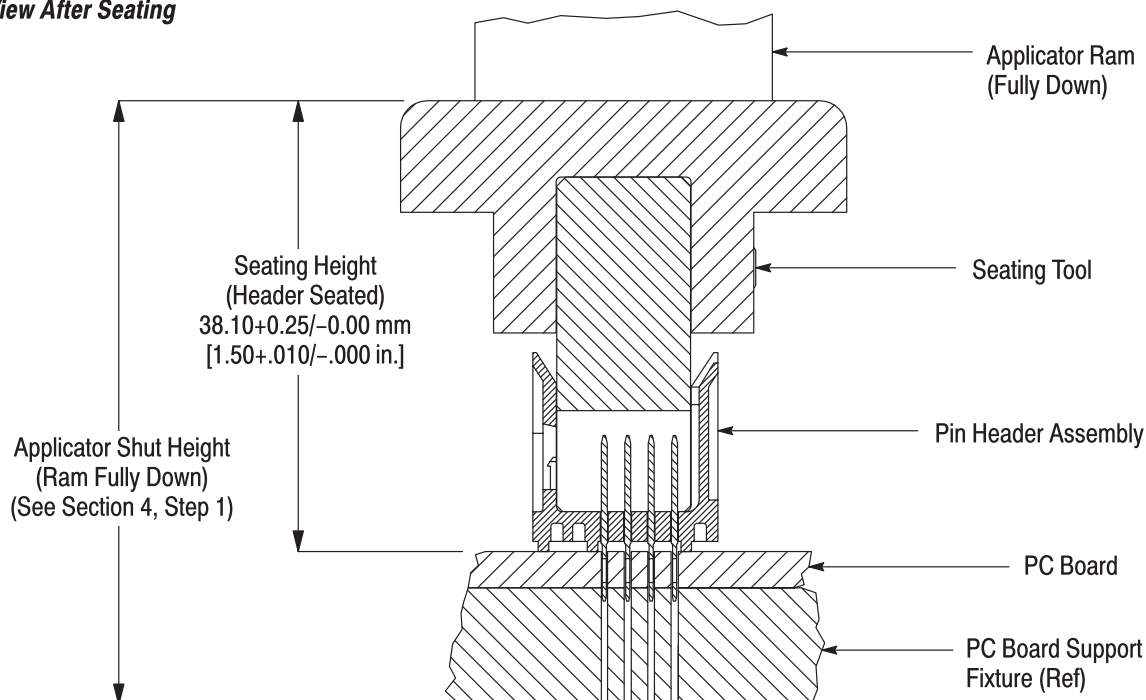

Figure 3
1. Set seating height to the dimension shown in Figure 3 (applicator *shut height* will equal the seating height PLUS the combined thicknesses of the pc board and pc board support).
6. Cycle applicator ram according to instructions for the power source. Check assembly for proper seating, using the requirements in Figure 3.